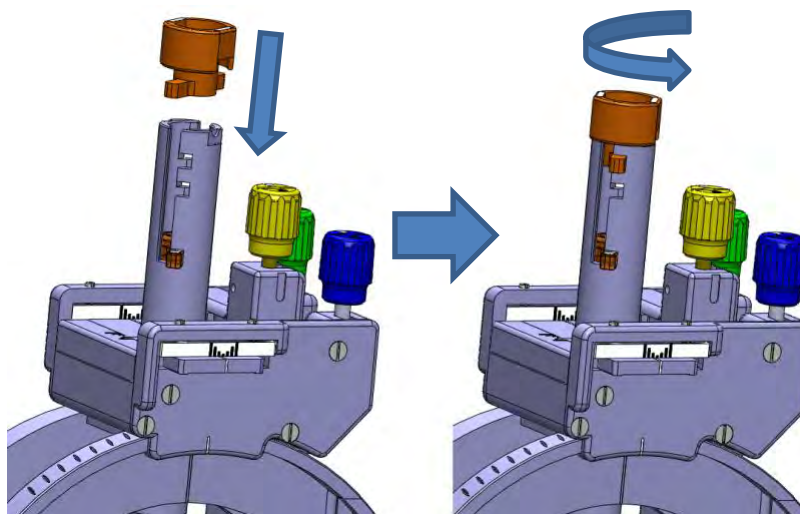

Figure 15: Reattaching the TC Cap
6. Attach the Removable Cap by aligning the Cap's tabs with the slots in the TC Support, pressing down on the cap, and then twisting to lock the tabs into the horizontal slots. See Figure 15.